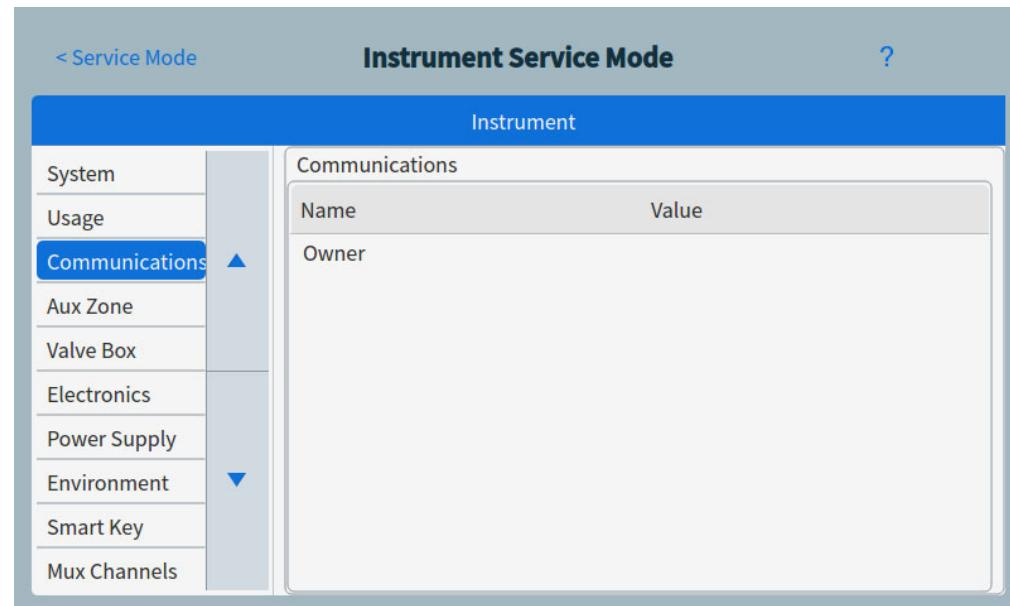

Figure 44. Instrument Service Mode page
- 1 Select the desired component type. The Service Mode page for the selected component appears. See **Figure 44**.